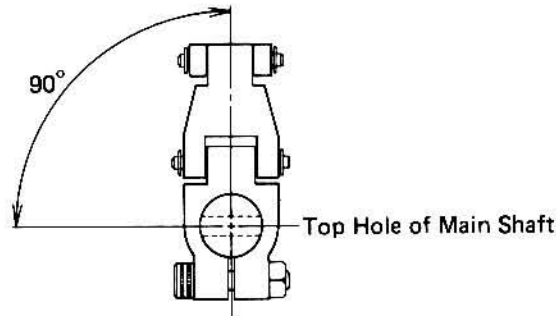

Fig. 13
- 19** Pull the main shaft upwards, and push down the upper plate lock, then tighten up the bolt on the upper plate lock. At this time, the upper plate lock must be 90 degrees from the 3mm hole in the main shaft. See fig. 13.